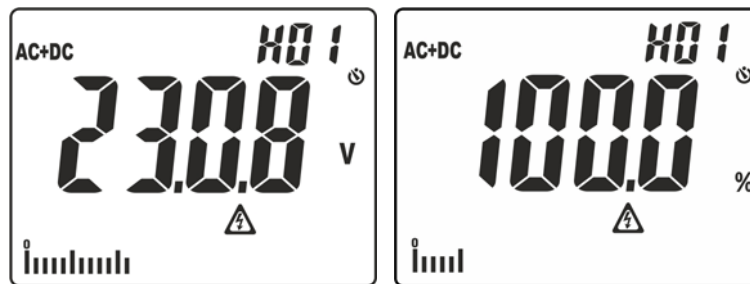

Fig. 3: Display of amplitude of harmonic analysis
- Simple pressing of the key to display the amplitude of voltage and current harmonics up to the 25th (**Hdc**, **H01... H25**) in absolute or percentage format in relationship with the fundamentals of input signals (for voltage values $V_{AC} > 0.5V$ and current values $AC > 0.5A$ and frequency in the range $42.5Hz \div 69Hz$) and the percentage value of parameter **THD%** (see § 9.4) as shown in Fig. 3. Use keys $\blacktriangle$ and $\blacktriangledown/\text{I}$ to increase/decrease the order of the harmonic.